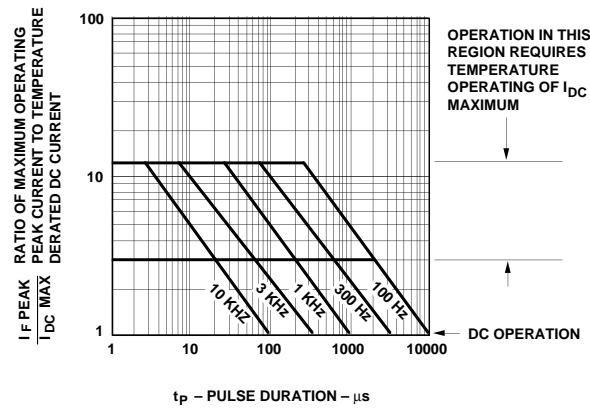

Figure 9. Allowable Peak Current vs. Pulse Duration - Green.
- See Figure 9 to establish pulsed conditions.